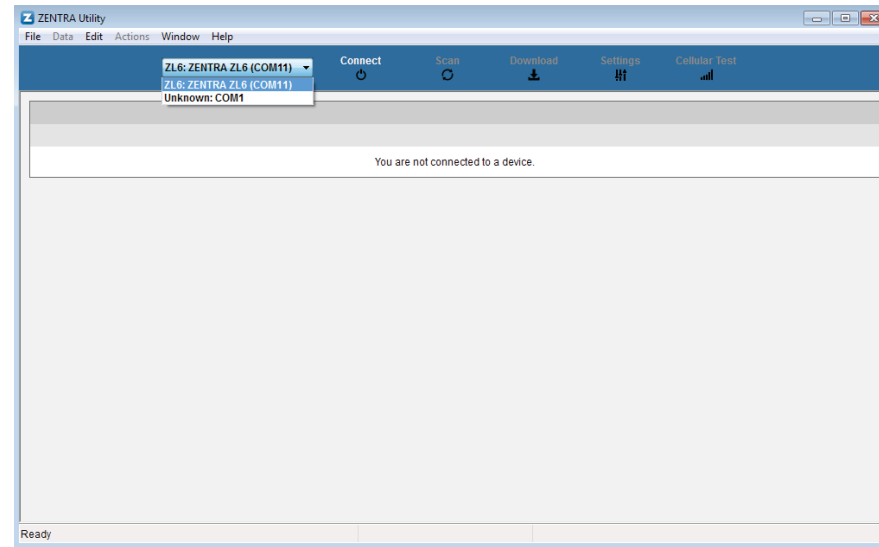
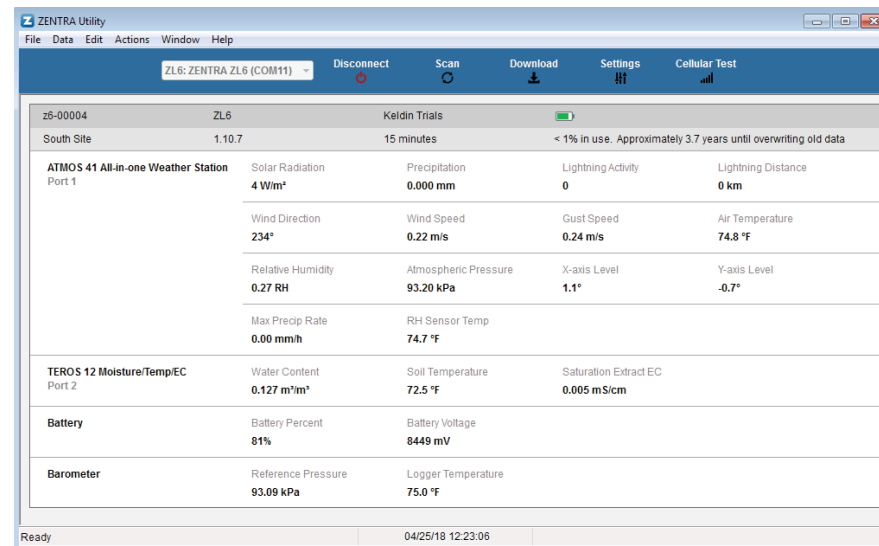

Figure 2 COM port dropdown
Figure 3 ZENTRA Utility showing a connected ZL6 and its instantaneous measurements
3. On the ZENTRA Utility main screen, select the appropriate COM port from the dropdown menu (Figure 2). If the logger designation does not appear, try a different port or cable.
- Click the Connect button next to the COM port dropdown menu (Figure 2). Once successfully connected, ZENTRA Utility displays the instantaneous sensor measurements from the ZL6 (Figure 3).